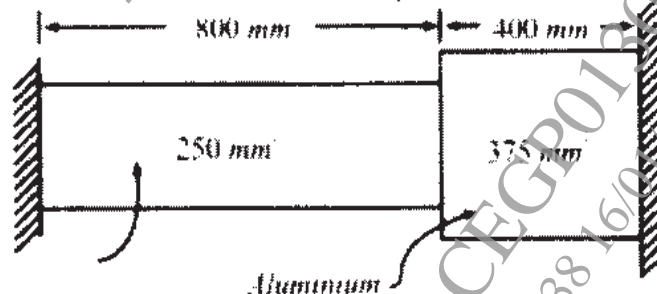

Fig 1.1
b) The composite bar consisting of steel and aluminium components as shown in Fig 1.1 is connected to two grips at the ends at a temperature of 60° C. Find the stresses in the two rods when the temperature falls to 20°C. [8]